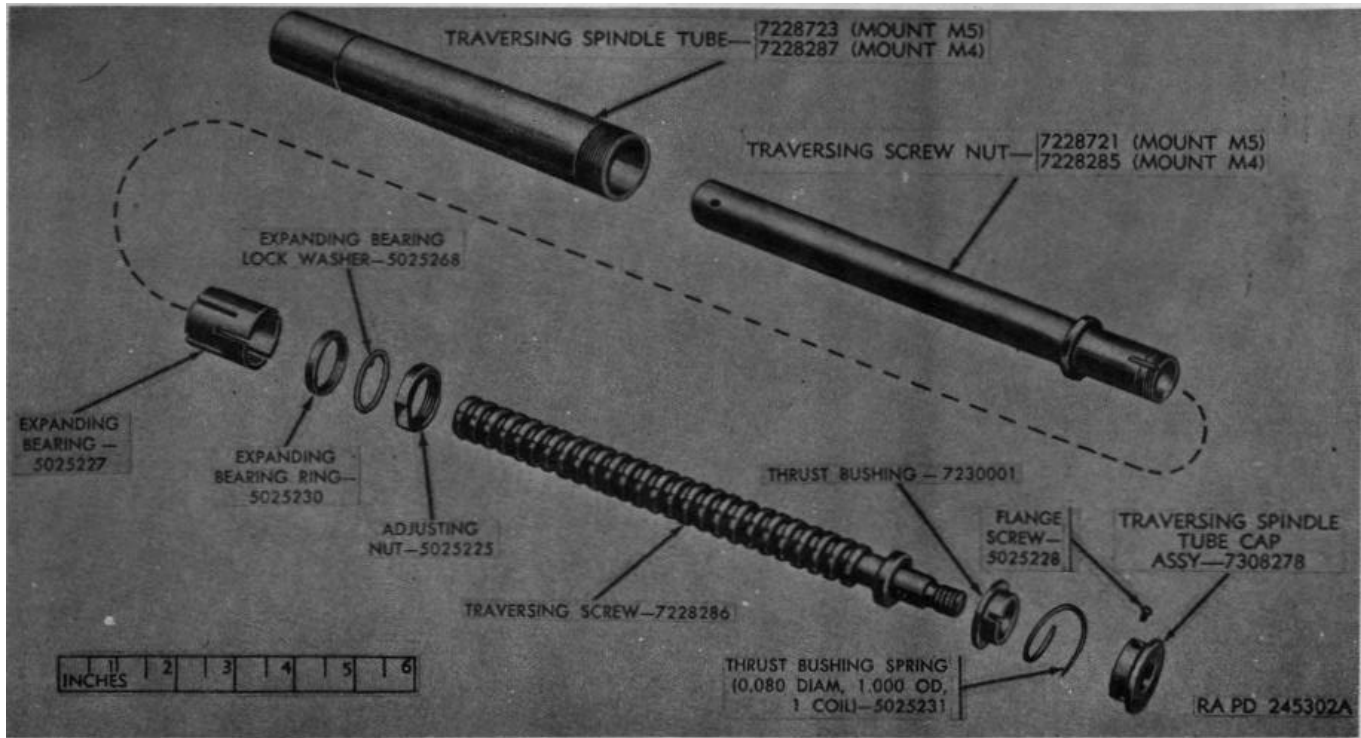
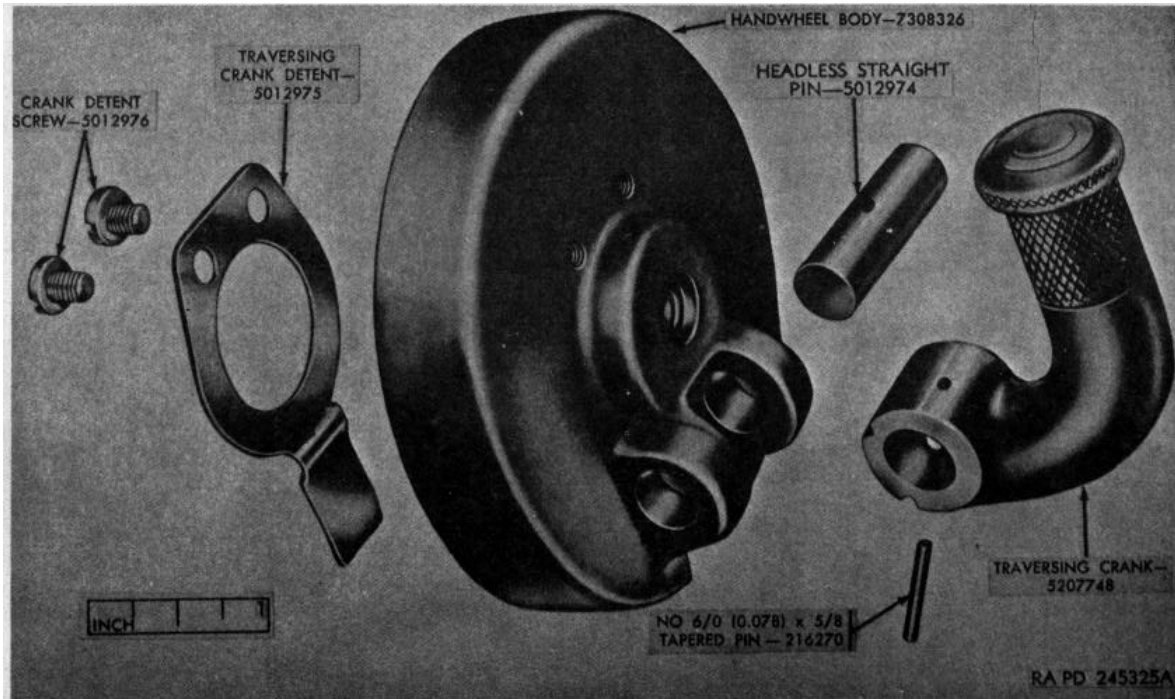

Figure 17. Traversing spindle assembly 7230151-exploded view.
Figure 18. Traversing handwheel assembly-60-mm mount M5, 81-mm mount M4.
d. To disassemble traversing spindle assembly, remove flange screw, unscrew traversing spindle tube cap assembly, and remove thrust bushing spring and thrust bushing (fig. 17).
e. Unscrew traversing screwnut from traversing screw (fig. 17). Remove the following, in order listed, from the traversing screwnut (fig. 17).
- (1) Adjusting nut.
- (2) Expanding bearing lockwasher.
- (3) Expanding bearing ring.
- (4) Expanding bearing.
f. To disassemble traversing handwheel assembly, remove two crank detent screws and traversing crank detent from handwheel body; then drive out tapered pin that retains the headless straight pin and remove pin and traversing crank (fig. 18).
a. To assemble traversing handwheel assembly (fig. 18), secure traversing crank detent to the handwheel body with the two crank detent screws; then assemble traversing crank to handwheel body by means of the headless straight pin and drive in No. 6/0 (0.078) x 5/8 tapered pin.
b. Hold traversing screw in a vise with soft jaws. Place thrust bushing (flanged end leading) over screw and follow with thrust bushing spring (0.080 diam, 1.000 od, 1 coil) (fig. 17). Press the traversing spindle tube cap assembly down against spring, making certain the spring pin in the flange fits in the cut in the thrust bushing (fig. 17). Hold cap down in this position and screw the traversing handwheel assembly (A2) on the traversing screw until the holes in the screw and handwheel align and drive in No. 0 (0.156) x 1 tapered pin (A1) to secure handwheel to screw.
c. Assemble the following, in the order listed in (1) through (3) below, on the traversing screw nut (fig. 17).
- (1) Expanding bearing.
- (2) Expanding bearing ring (tapered end leading).
- (3) Expanding bearing lockwasher (stud leading and engaging slot of traversing screwnut).
- (4) Adjusting nut.
d. Screw traversing screwnut (assembled end leading) on traversing screw (fig. 17).
e. Screw traversing spindle tube into traversing spindle tube cap assembly until the holes in the tube and cap align and screw in the flange screw (fig. 17).
f. Pass the traversing spindle assembly (A3) through hole in the shock absorbers, mortar clamp end yoke assembly (A4), and the elevating mechanism group (J) (smaller opening leading).
g. Screw the traversing spindle tube nut assembly (C) into